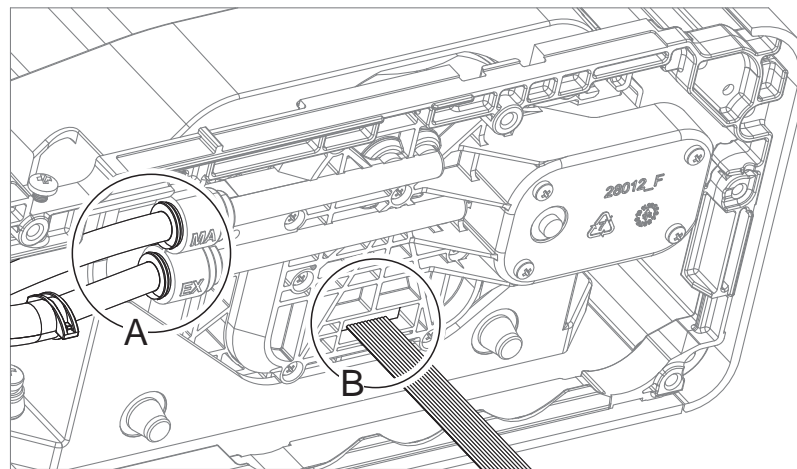

Figure 7-10: Remove pipes and cable
6. Disconnect two pipes (A) and the cable (B) (Figure 7-10).